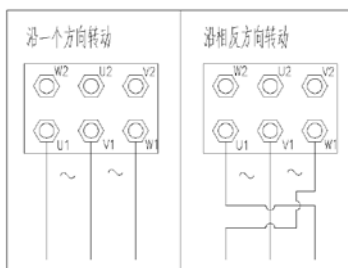

Fig.5 Wiring diagram of flanged vibrator changing rotation direction
2、Pay attention to the rotation direction of the vibration motor. If the rotation direction of the vibration motor needs to be adjusted, first cut off and lock the power supply / give a warning sign, then change the direction of vibrator rotation through changing the power cable connection order refer to figure 5.